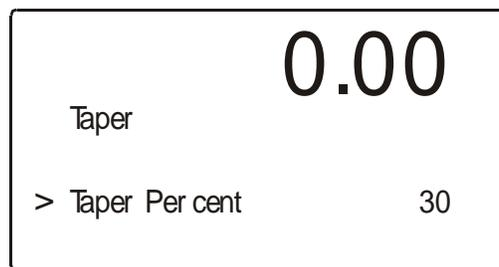

FIG. 3-16 PROCESS SETUP MENU/SETTING THE TAPER PERCENT
- Step 3. Press the “-” until the cursor is in front of “Taper”. (See Fig. 3-16)